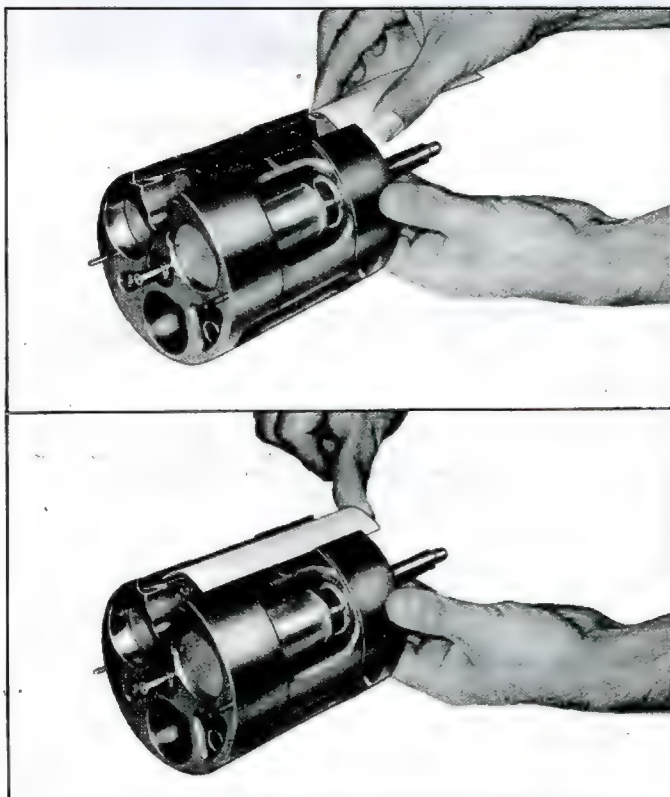

Fig. 54—Installing Suction Crossover Cover
12. Replace the suction crossover cover as shown in Figure 54. Compress the cover as shown to start it into the slot and then press it in until flush on both ends.